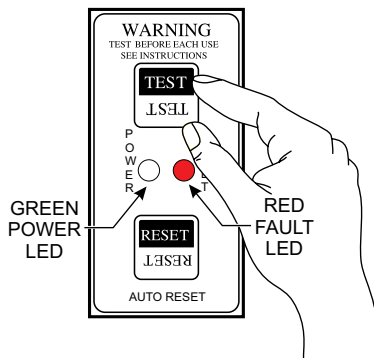

Figure 86. GFCI Sensing Module (Red/Fault LED ON)
- Next, press the **TEST** button on the GFCI sensing module (Figure 86) and verify that the **GREEN** power LED turns **OFF** and the **RED** fault LED turns **ON**.